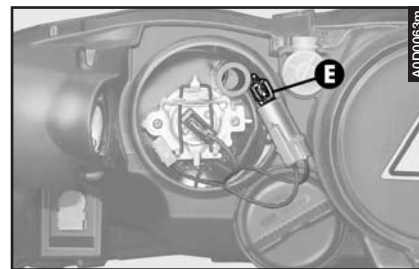

fig. 34
- Remove the bulb (**E-fig. 34**) from the bulb holder, pushing it slightly and turning it counter-clockwise.